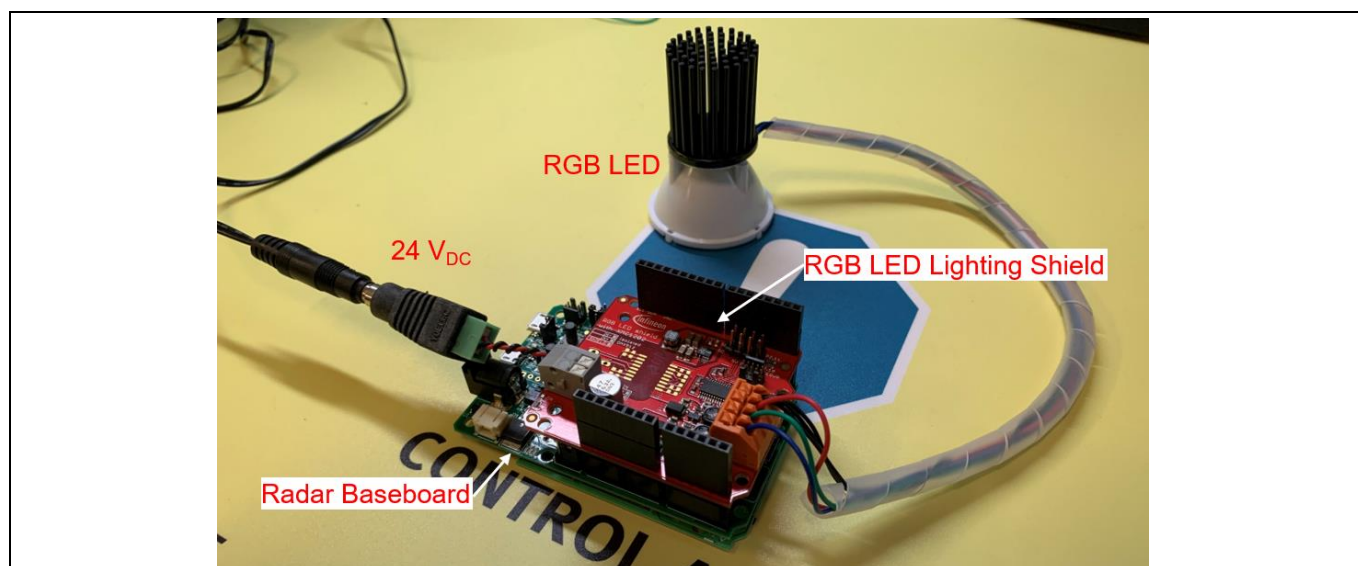

Figure 27 **Stacking the RGB LED lighting shield onto the Radar Baseboard XMC4700**
11. Stack the RGB LED lighting shield with XMC1202 onto the Radar Baseboard XMC4700 via the Arduino stack headers (Figure 27). Also connect an RGB LED and a 24 V DC power adapter to the RGB LED lighting shield.